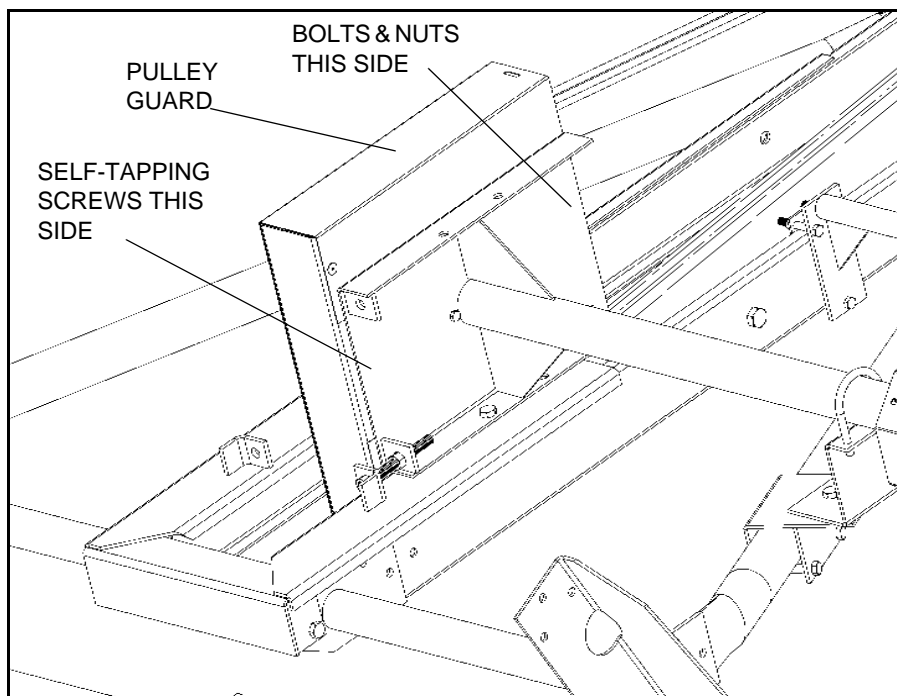

Figure 3.44 Pulley Guard Installation
- Attach pulley guard to PTO drive assembly with two 1/4" x 1/2" bolts and locknuts on one side and self-tapping screws on the other (Figure 3.44).